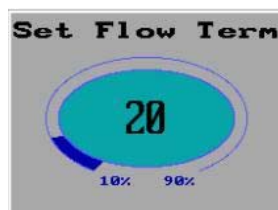

Figure 73: The Set Flow Term Pop Up Window
2. Press the Control Knob. The Set Flow Term pop up window appears (Figure 73):